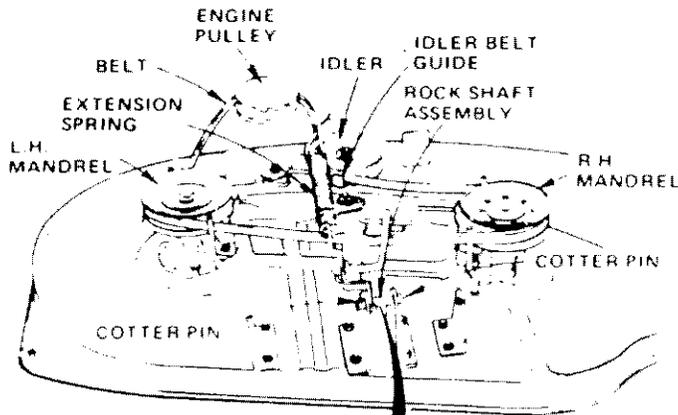

FIGURE 31
- Slide belt under extension spring (Fig. 31).
- Using (2) 7/16" wrenches, remove the bolt, nut & D-shaped washers (Fig. 31 - Inset).